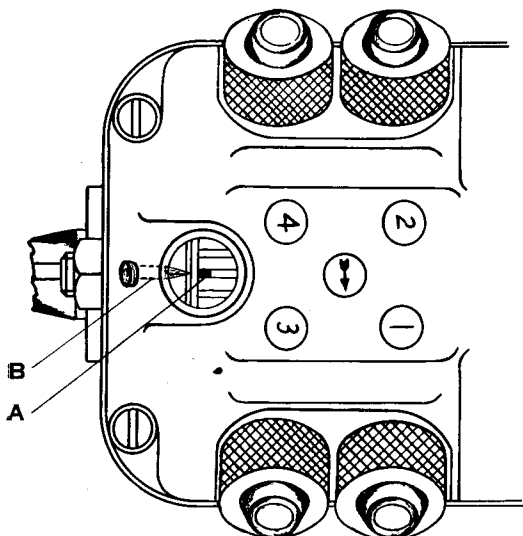

Fig. 1. Showing Timing Markers.
2. Place the breaker in its full advance position (variable spark magnetos). Rotate the magneto drive shaft until the timing mark A on the chamfered tooth of gear, Fig. 1, and timing pointer B are opposite each other as seen through the timing window in the magneto cover. At this position the breaker contacts should begin to open.
clean and smooth. With the timing marks A and B (Fig. 1) opposite each other, install the magneto on the engine and secure with its mounting bolts. Exact timing is obtained by turning the magneto through the range provided in the slots of the mounting flange. A convenient
2. Turn the drive shaft until the mark \bar{A} (Fig. 1) on the chamfered tooth of the large distributor gear is opposite the timing pointer B inside the magneto cover as seen through the timing window. When these two marks are opposite each other, the breaker contacts should be just opening. A convenient way of checking this adjustment is to place a piece of thin cellophane between the contacts and pull against it slightly. When the cellophane slips, the contacts are separating. Insure that particles of the cellophane are not left on the contact points after the adjustment has been made.